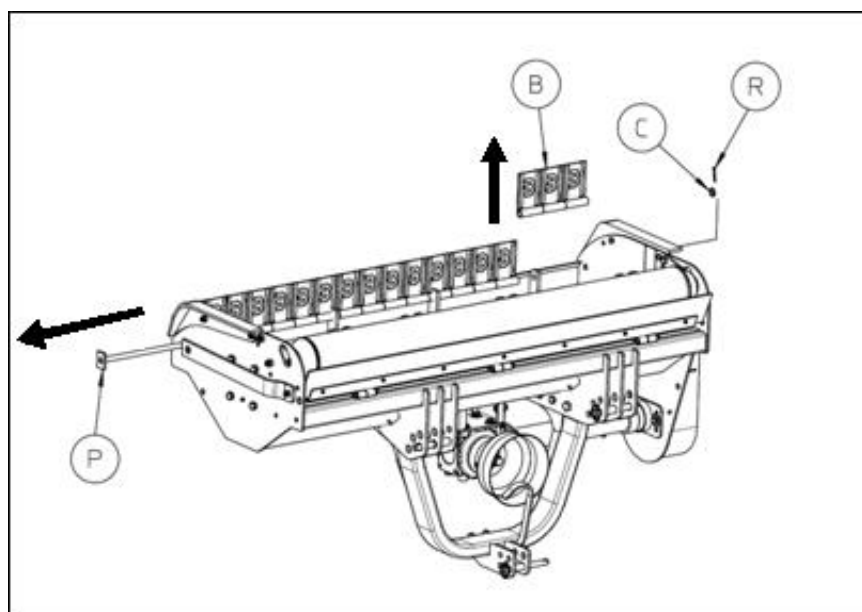

Figure 37
2. Remove the safety pin C with the respective washer R (figure 37);